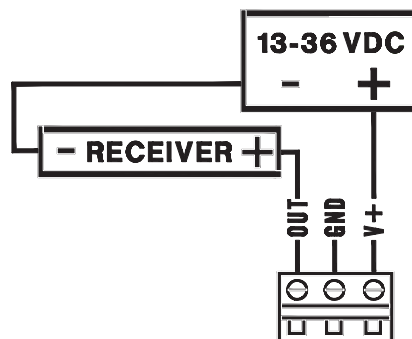
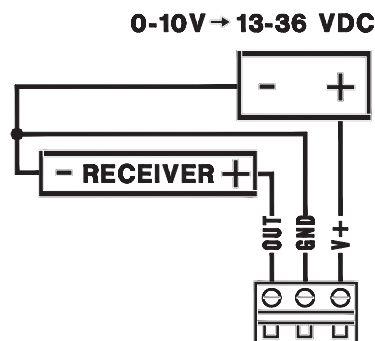

Figure 1
Figure 2
5. Proceed with wiring according to Figure 1 or Figure 2.
The Series BTT Temperature Transmitter can be ordered for current or voltage outputs. For current output models, the supply power must be between 13 to 36 VDC and the unit should be wired as shown in Figure 1.
For voltage output models, the power requirement must be between 13 to 36 VDC. The unit should be wired as shown in Figure 2.